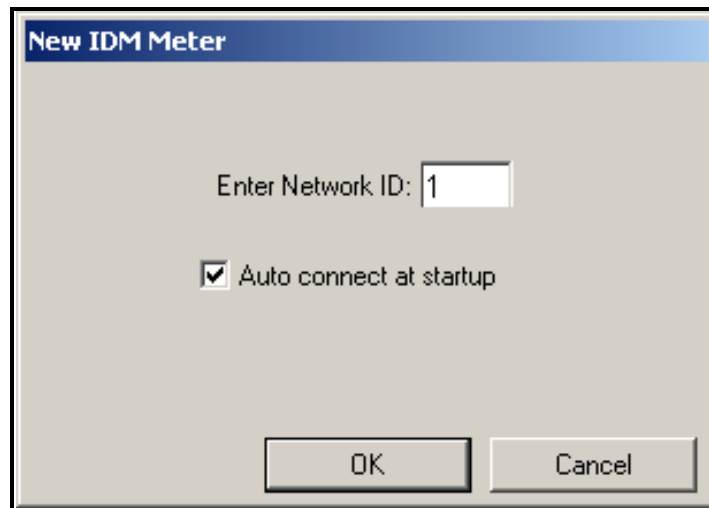

Figure 19: New IDM Meter Screen
4. The “New IDM Meter” screen (shown in Figure 19) opens. Enter the Network ID number for the meter, and click [OK].
1. Highlight the meter (as shown in Figure 19 on page 25).